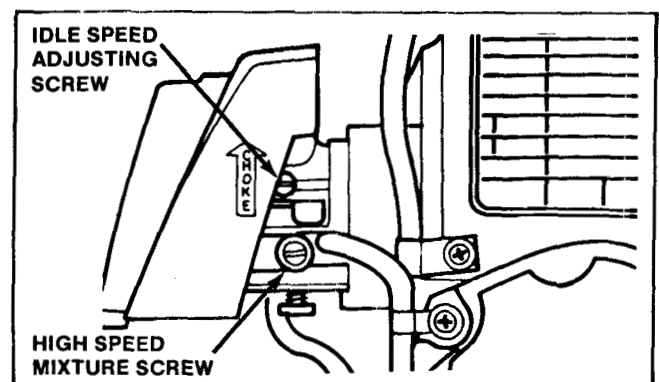

Figure 34
1. With the engine running at operating temperature, the choke fully opened and, no load applied to the engine, turn the idle speed adjusting screw to achieve an idle between 2300 and 2700 rpm. See Fig. 34.
1. The high speed mixture screw (see Fig. 34) controls the fuel flow requirements during the engine's optimum demand. With the engine running at operating temperature, the choke fully opened and, no load applied to the engine, turn the high speed mixture screw to obtain the highest RPM. This should be approximately $2\frac{1}{2}$ to $3\frac{1}{2}$ turns out from fully closed.